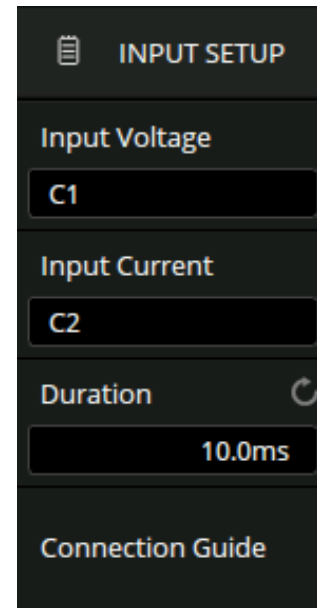

Figure 19.15 Input Setup Menu
1. Touch **Input Setup** to display the signal menu shown in figure 19.15.